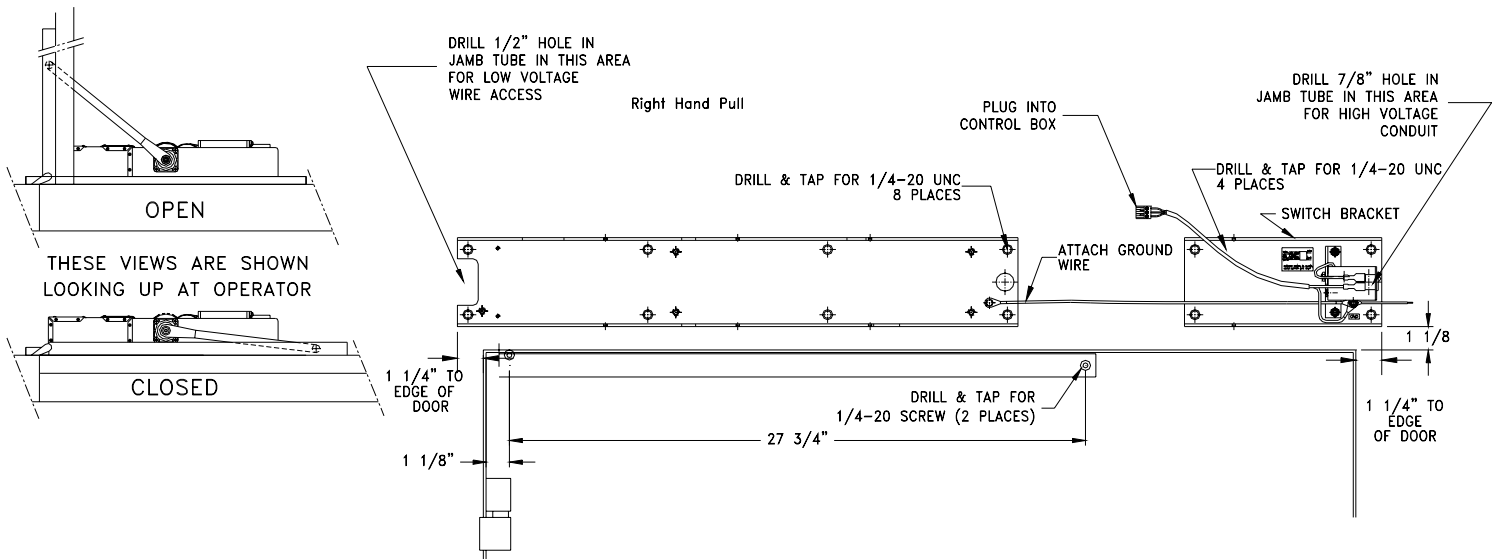

FIGURE 18: OPERATOR INSTALLATION - PULL ARM
3. Mounting bracket must be installed with the thread studs away from the hinge to ensure correct operator orientation. Mount switch bracket as shown (**Figure 18**).
5. For opposite side door, view will mirror **Figure 18**.